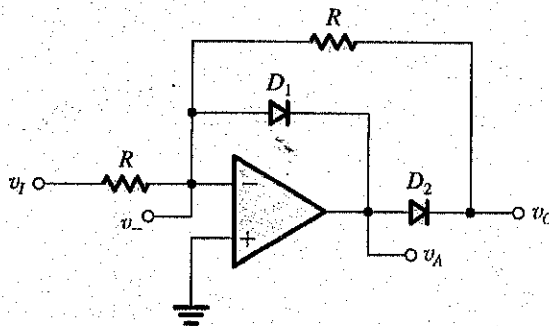

Figure P4.86
4.86 The op amp in the circuit of Fig. P4.86 is ideal with output saturation levels of ± 12 V. The diodes exhibit a constant 0.7-V drop when conducting. Find v_- , v_A , and v_o for: